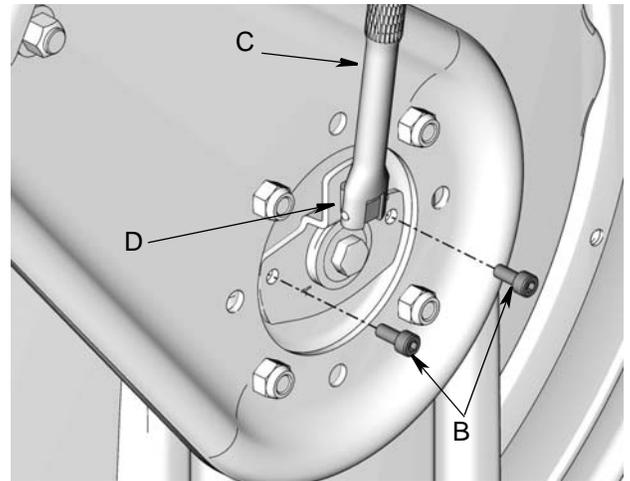

FIG. 21
3. Insert ratchet (C) in slot (D) first, then entirely remove screws (B) (FIG. 21).